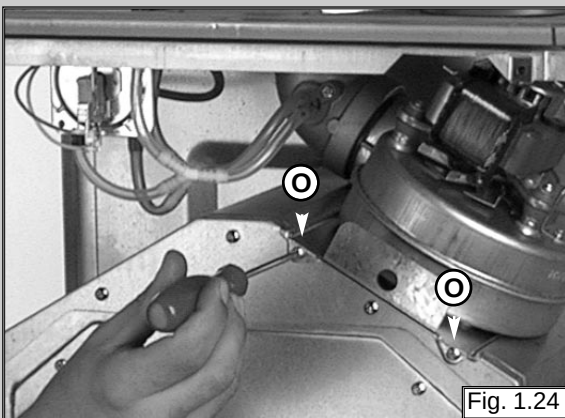

Fig. 1.24
1. Disconnect electrical connections and remove screws "O" using a No. 2 star tipped screwdriver (see fig.1.24);